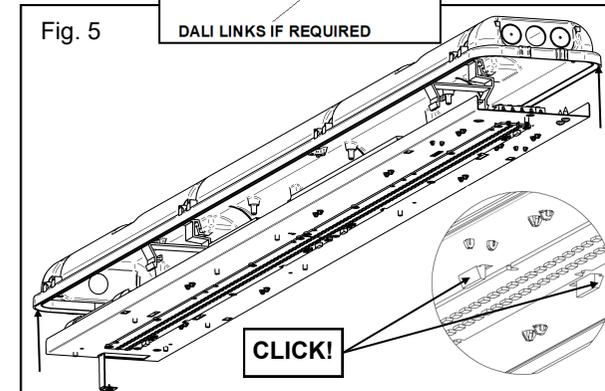

Fig. 5
10. Clip the gear tray back into the housing. (Fig.5)